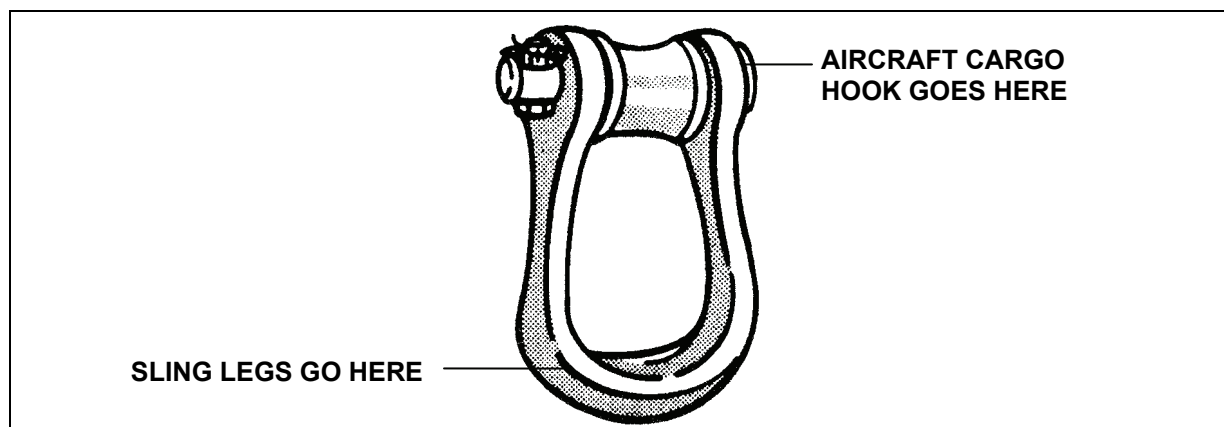

Figure 6-2. Apex Fitting Components
- Apex Fitting.** The metal apex fitting (Figure 6-2) gathers the sling legs and attaches the sling set to the helicopter hook. Each apex fitting consists of a clevis, pin, spacer, and castellated nut and cotter pin. The 10,000-pound capacity clevis is made of aluminum and uses a 1 1/8-inch diameter pin. The 25,000-pound capacity clevis is made of alloy steel and is fitted with a 1 1/2-inch diameter pin